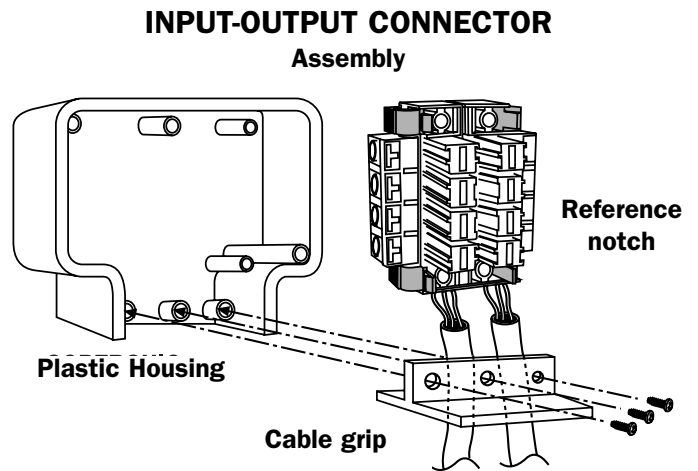

Fig. 6 Connection terminals housing
2. Insert the connector into the plastic housing and secure it using the screws supplied. Secure the wires to the housing using the cable grip (see fig. 6).